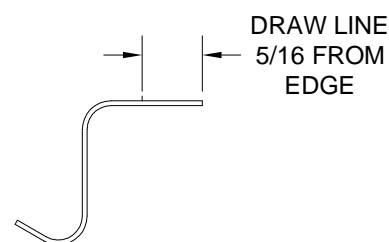

FIGURE 3: TANK J-STIFFENER END VIEW
Step 4: Fabricate two T-1009 Tank J-Stiffeners by cutting two pieces of J-Channel each one 64 1/4 inches long. Draw a centerline on each tank J-stiffener as shown in Figure 3. Set one tank J-stiffener aside for assembly into the right fuel tank.